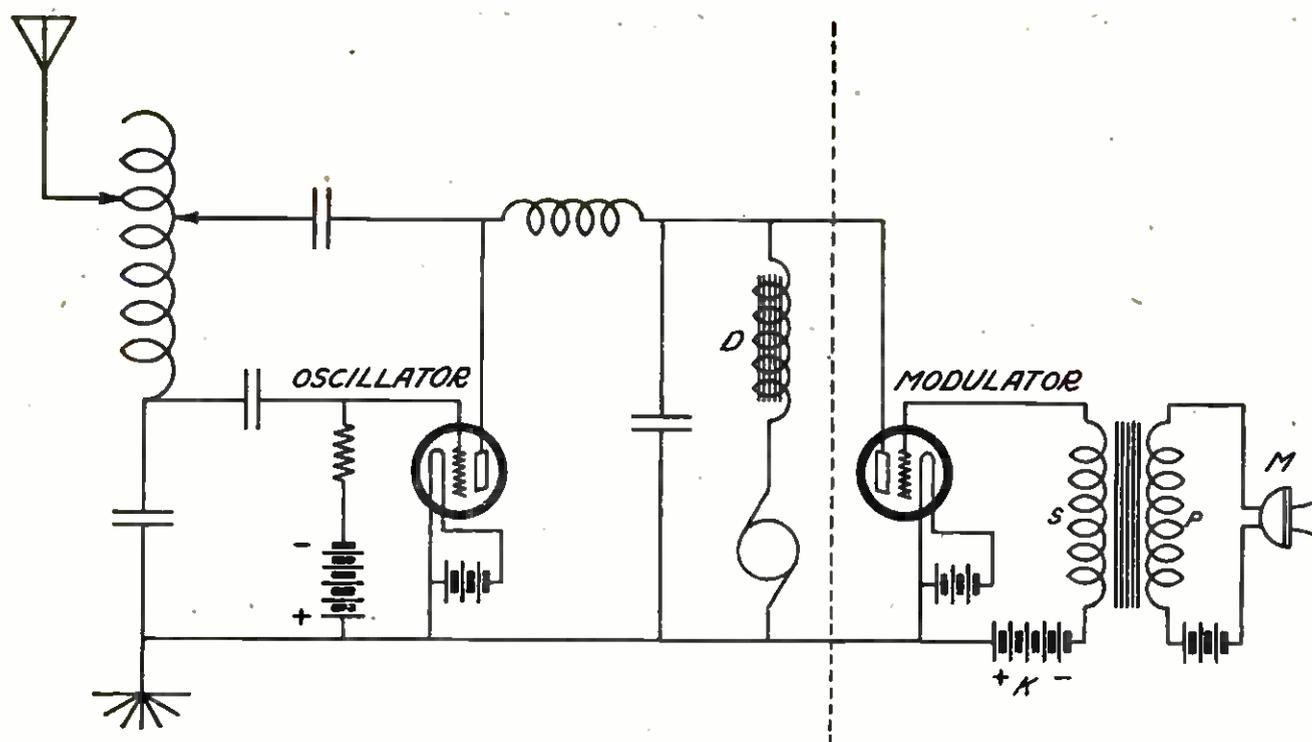

FIGURE 3
Such a one is indicated in Figure 3; in Europe it is called *plate modulation* or *choke-coil modulation*, but in the United States it is styled the Heising scheme of modulation, because Heising was responsible for its development in this country.
*In this type of set one tube is used as an oscillator and another tube (of the same power) is used as a modulator. The circuit diagram for this set is shown in Figure 3, which indicates how to connect the two tubes in the correct way.*
The set shown in Figure 3 has only two tubes; in the average 500-watt broadcasting station two oscillators operate in parallel and either two or three tubes (of the same size as the oscillators) are connected in parallel with each other to act as modulators. The connection scheme shown in Figure 3 was used extensively during the war for Signal Corps sets and for the sets used on naval vessels. The circuit is divided by the dash line to indicate the two parts; all the apparatus to the left is used to make the oscillator function to furnish the high-frequency power to the antenna while that to the right is the required addition